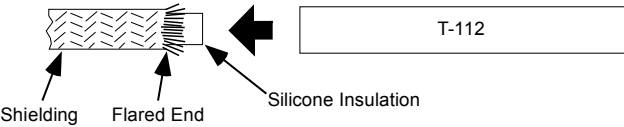

Figure 3.3.2C
- 2. Flare shielding to allow easy insertion of T-112 stripping tools (See Figure 3.3.2C).